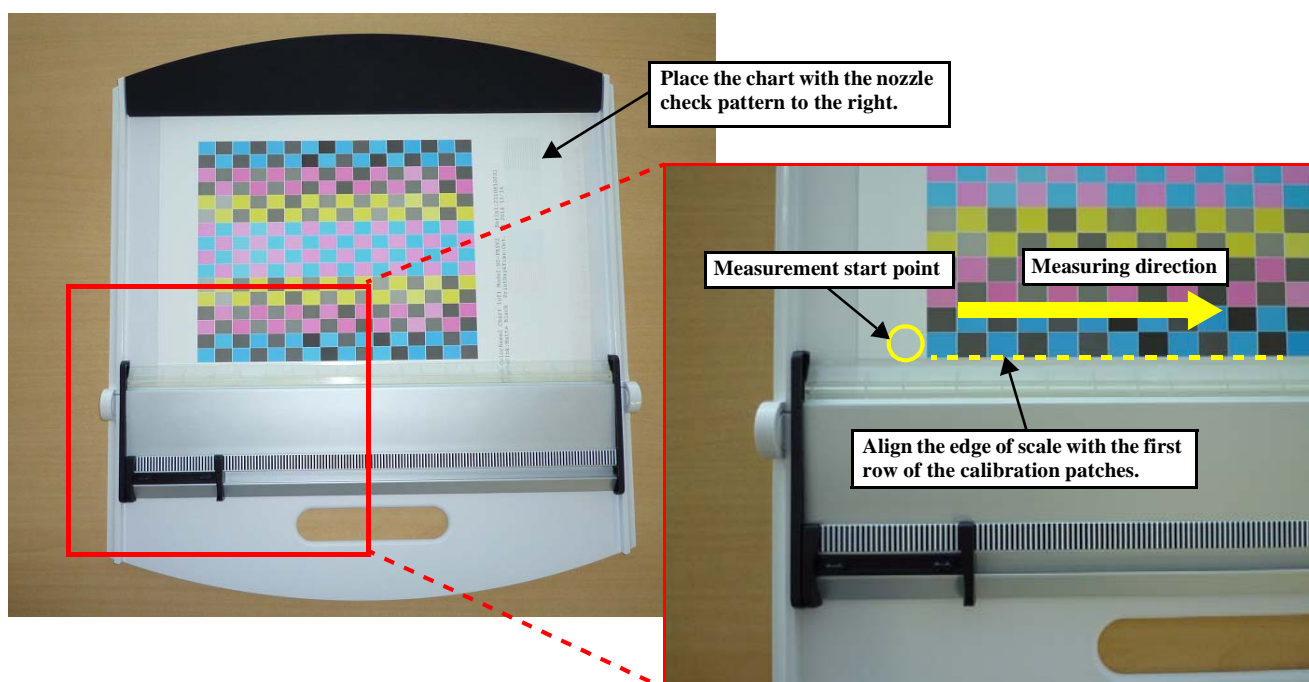

Figure 2-35. Color chart setting
15. Place the color chart on the backing board as shown in Figure 2-35 and set the scanning ruler, and then click OK. (Use Premium Glossy Photo Paper instead if no backing board is available.) i1Pro2 is used for explanation in the following figures.
16. Perform color measurement according to the instruction on the window. Press and hold the button on the calibrator and wait for one to two seconds, and then keep holding it and slide the calibrator at a steady speed in the measuring direction from the measurement start point shown in Figure 2-35.
Wrong row/wrong measuring direction	See Figure 2-35 and Table 2-8 and confirm the current row to be measured and the measuring direction are correct.